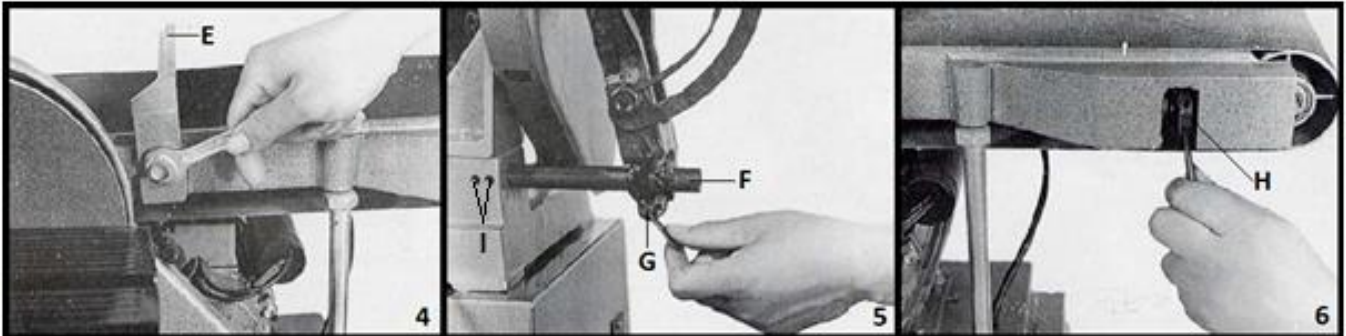

Fig.4
3. Loosen the belt by turning the Allen bolt (H, fig.4).